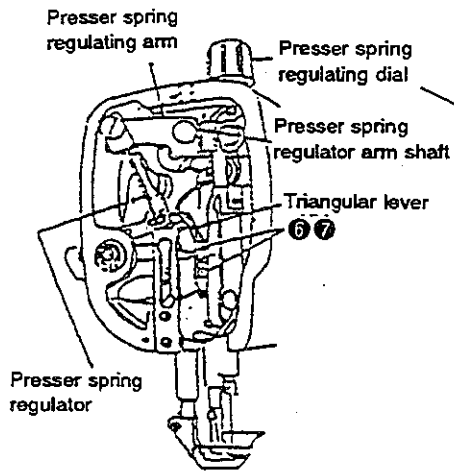
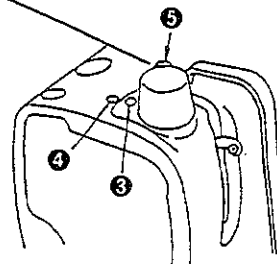
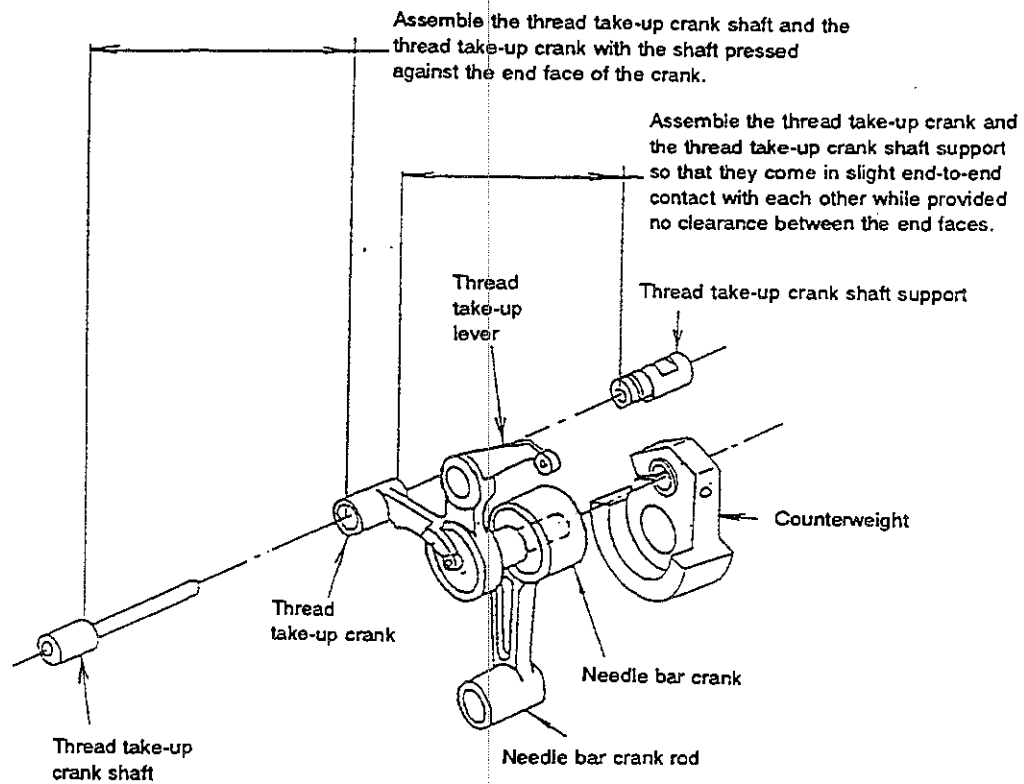

Fig. 2
Fig. 3
Fig. 4
<p>1) Needle entry in the needle slot of the feed dog in the lateral direction</p> <ol style="list-style-type: none"> 1. Set the dial to adjust the amount of alternating vertical movement of the walking foot and presser foot to "1" on the scale. 2. Remove the top cover. 3. Set the stitch dial to "9" on the scale. 4. Loosen the screw in the reverse feed cylinder. 5. Remove the reverse feed cylinder. 6. Remove the side plate. 7. Loosen screw ① in the needle bar connecting rod. (Fig. 1) 8. Loosen screw ② in the thrust collar of the needle bar frame driving shaft. (Fig. 1) 9. Remove the presser spring regulating dial. (Fig. 2) 10. Loosen screw ③ in the presser spring adjusting arm shaft. (Fig. 3) 11. Remove the presser adjusting arm. (Fig. 2) 12. Remove the presser spring regulator. (Fig. 2) 13. Remove the presser spring regulating arm shaft. (Fig. 2) 14. Loosen screw ④ in the thread take-up crank shaft. (Fig. 3) 15. Draw out the thread take-up crank shaft. (Fig. 4) 16. Loosen screw ⑤ in the thread take-up crank shaft support. (Fig. 3) 17. Remove triangular lever shafts ⑥ and ⑦. (Fig. 2) 18. Adjust the needle entry in the needle slot of the feed dog in the lateral direction. 19. Tighten screws ② of the thrust collar. (Fig. 1) 20. Adjust the position of the thread take-up crank shaft support in accordance with the position of the the thread take-up crank. 21. Tighten screw ⑤ in the thread take-up crank shaft support. (Fig. 3) 22. Put the thread take-up crank shaft in the thread take-up crank until the shaft reaches the end face of the thread take-up crank. (Fig. 4) 23. Tighten screw ④ in the thread take-up crank shaft. (Fig. 3) 24. Attach the triangular lever shafts ⑥ and ⑦ in place. (Fig. 2) 25. Attach the presser spring regulating arm in place. 26. Attach the presser spring regulating arm shaft in place. 27. Tighten screw ③ in the presser spring regulating arm shaft. (Fig. 3) 28. Attach the presser spring regulator in place. 29. Attach the presser spring regulating dial in place. 30. Set the stitch dial to "0" on the scale. 	<p>4', 5' Perform the adjustment steps 4 and 5 only for the sewing machine equipped with an auto-lifter.</p> <p>17' Tilt the triangular lever, which is set free, toward the presser bar lifting lever. At this time, eliminate a thrust play at the needle bar frame driving shaft and tighten the screw while oscillating the needle bar frame toward the operator.</p> <p>20' At this time, adjust so that their end faces come in slight contact with each other while providing no play between them by moving the thread take-up crank shaft support.</p> <p>21' Tighten the screw while making the contact point of the thread take-up crank shaft support and the screw straight up.</p>